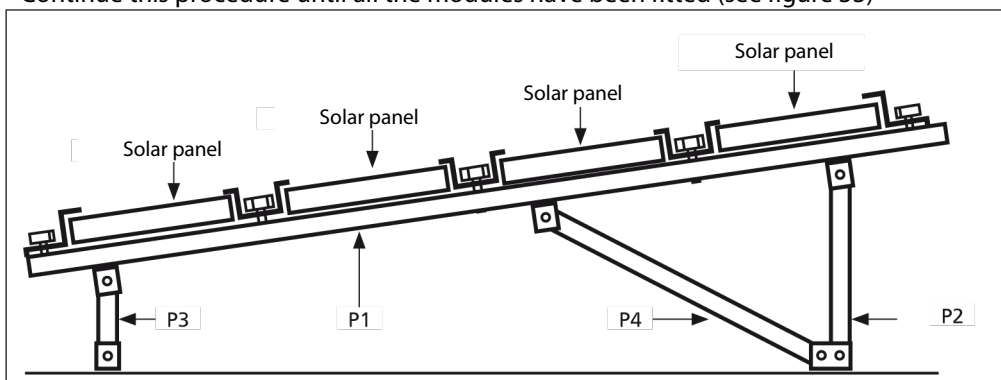

Figure 33
- Continue this procedure until all the modules have been fitted (see figure 33)